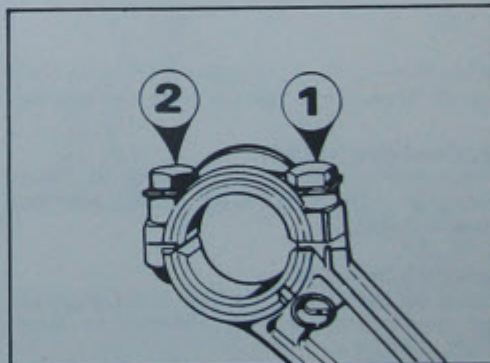

Fig. 21 Screw tightening sequence
- Secure screws with lock tab already fitted (see Fig. 21).